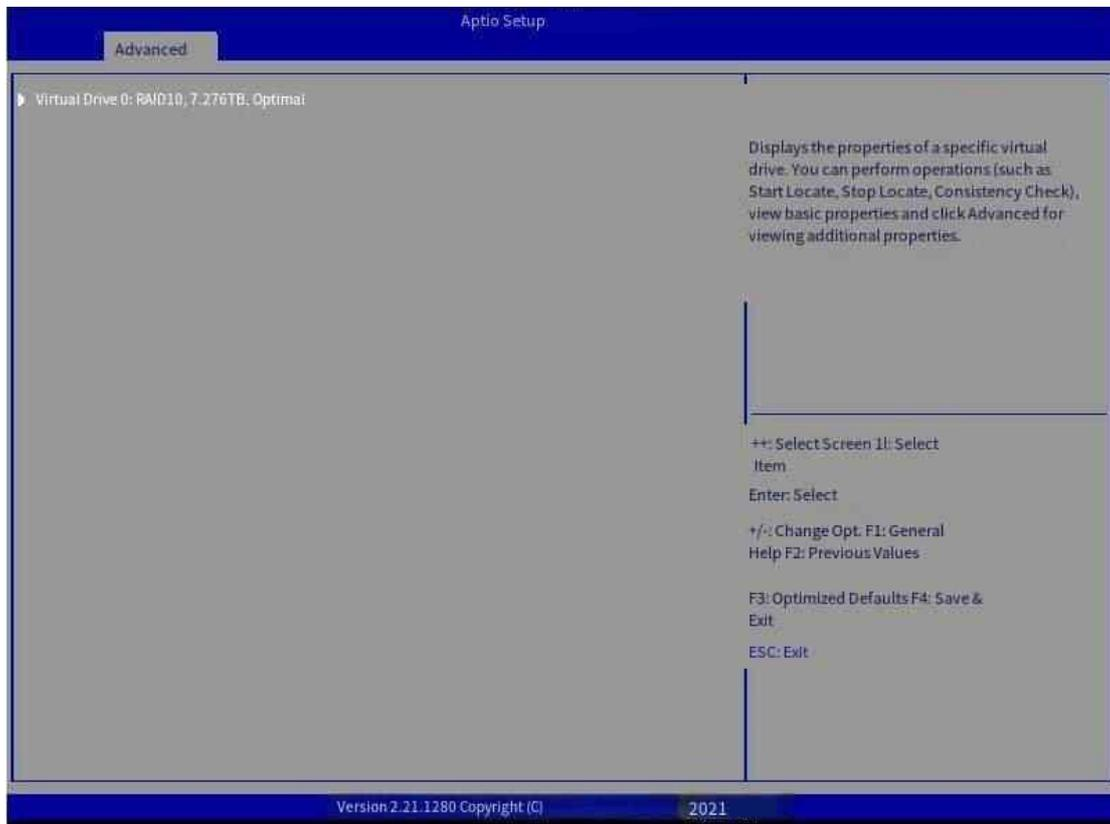

Figure 7-33 Viewing RAID information
Step 7 On the Virtual Drive Management screen, you can view the RAID array created under the controller, as shown in Figure 7-33.